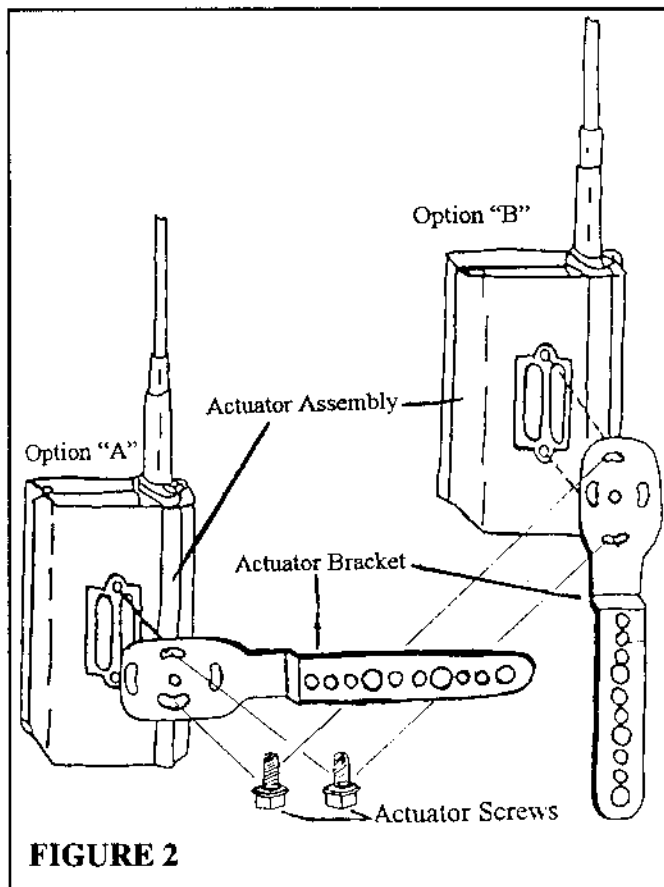

FIGURE 2
2. Install the **Extension Bracket** on the back of the **Actuator Assembly** with the two (2) **Bolts** provided. (**Figure 2**)